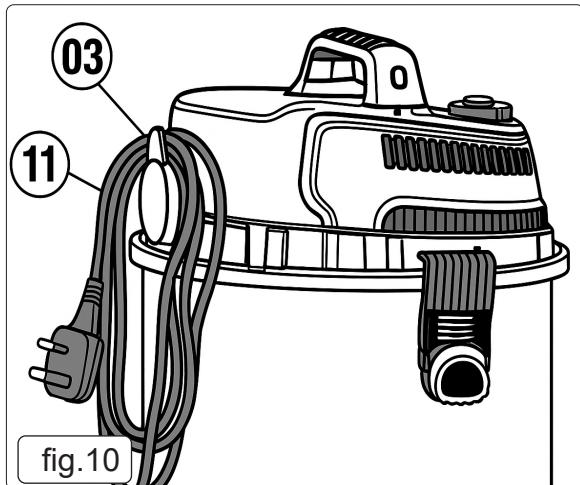

fig.10
6.4. Fig. 10 shows the built-in cord-hook system, which allows the power cord to be neatly stored when the unit is not in use.